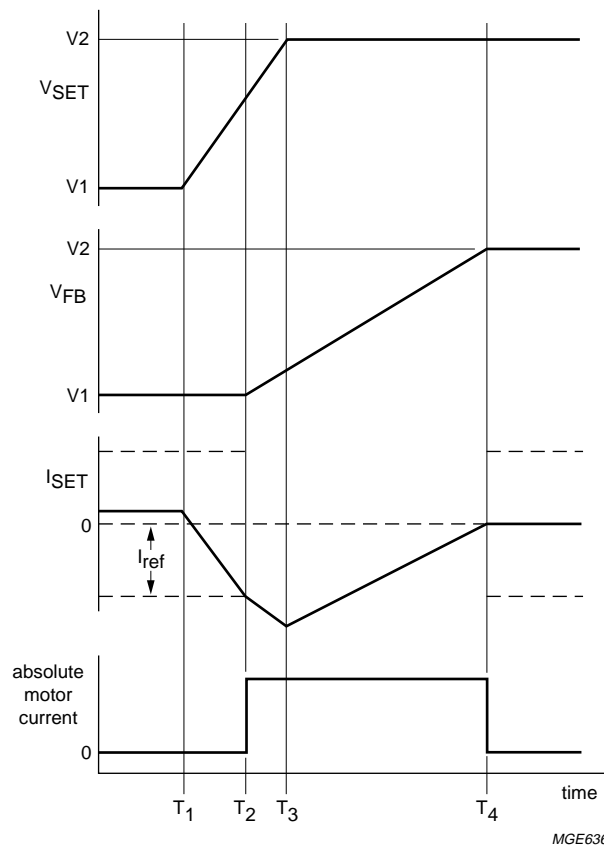
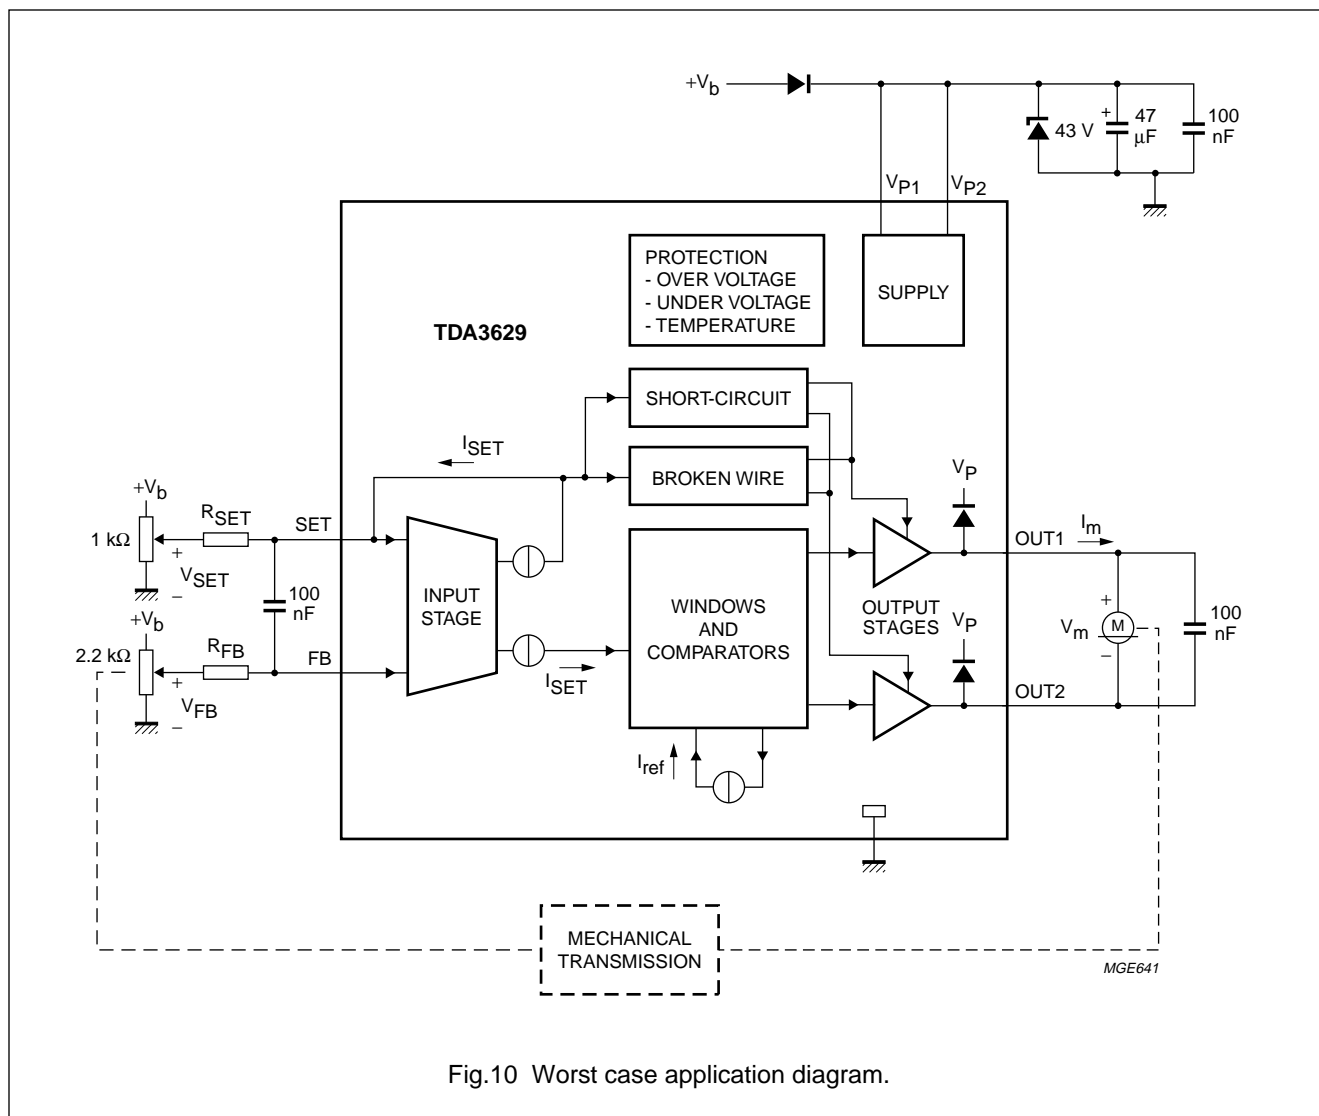

Fig.5 Timing diagram.
Fig.10 Worst case application diagram.
The timing can be divided into several parts starting from a steady state (see Fig.5, the starting point, and Fig.10 for the application diagram): in this state (until T_1) a large reference current is active, indicated by the dotted lines. When the setting potentiometer is rotated (started at T_1 and indicated by V_{SET}) and the input current I_{SET} becomes higher than the reference current I_{ref} (at time T_2), the motor will start and the input current will decrease. At the same time the reference current is switched to a low level. During rotation of the motor the input current will decrease until it becomes lower than this low reference current;
In accordance with the Absolute Maximum Rating System (IEC 134). All voltages are defined with respect to ground. Positive currents flow into the device. Values measured in Fig.10.
- Wave forms illustrated in Figs 7 and 8 applied to the application diagram, Fig.10.
$V_P = 12\text{ V}$; $R_L = 14\ \Omega$. All voltages are defined with respect to ground. Positive currents flow into the device. Values measured in Fig.10 with $R_{SET} = R_{FB} = 20\text{ k}\Omega$; unless otherwise specified.
Worst case transients that may occur on the battery line V_b of the application (see Fig.10), are the pulses whose wave forms and the corresponding values are as illustrated in Figs 7 and 8. The signal source which generates these pulses (numbered pulses 1 and 2) has a series resistance (R_i) of 10Ω . These pulses represent for instance the influence of switching of inductors on the battery line. The signal source which generates pulses 3 and 4 has a series resistance of 50Ω . These pulses represent for instance the influence of ignition on the battery line. Their repetition rate is 100 ms.
Two possible application diagrams are shown. The first (see Fig.9) shows the best case: the lowest component count. The second (see Fig.10) shows additional components which may be necessary. Two capacitors are added to meet EMC requirements (one on the V_P pins, the second one between the set and feedback input pins). A third capacitor has been added across the motor to suppress current spikes. The given values of these capacitors have to be optimized by experiments carried out on the total application. The resistors do not have to have the same value. The voltage hysteresis is set by means of R_{SET} .